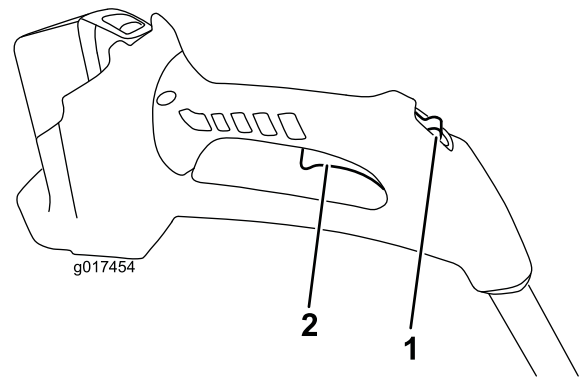

Figure 11
4. To start the trimmer, slide the lock switch back to the On position, then squeeze the trigger (Figure 11).